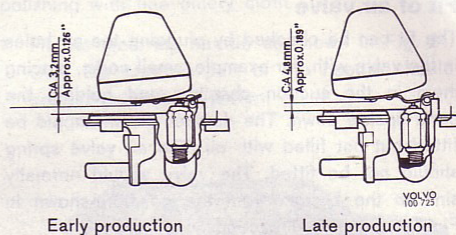

Fig. 27. Checking the float level
5. Check and attach the float valve (see Fig. 27). Fit the float and cover. Fit the floatchamber and connect the fuel line to the jet.
This type of carburettor is relatively insensitive to variations in the float level. As a guide value for the correct level, the position of the float can be checked in accordance with the measurements shown in Fig. 27.